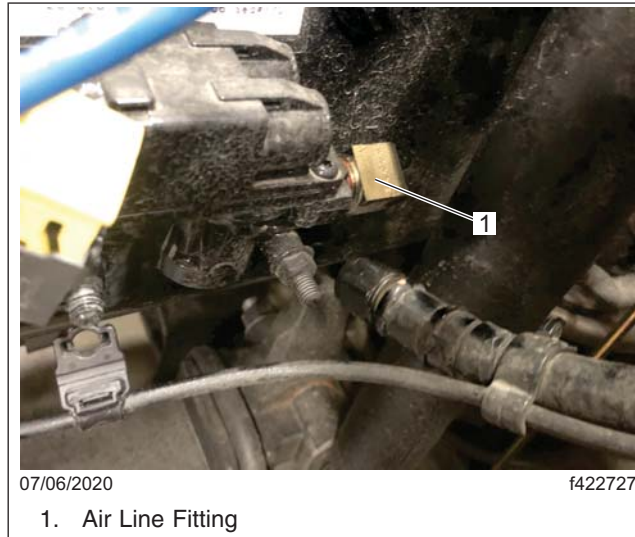

Fig. 9, Loosening the Brake Chamber Air Line Fitting
7. Use a 23-mm wrench to loosen the brake chamber air line fitting on the modulator valve. See Fig. 9.